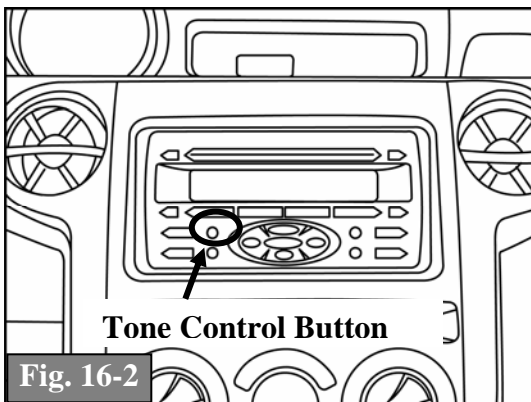

Fig. 16-2
- (1) **NOTE:** Bazooka Tube will not function if the Phase Switch is in the down position.
- (c) Using the tone controls on the radio, adjust the balance left and right, to verify that Bazooka Tube produces sound on both sides, and that the sound is loudest when the balance is set to the center. (Fig. 16-2)